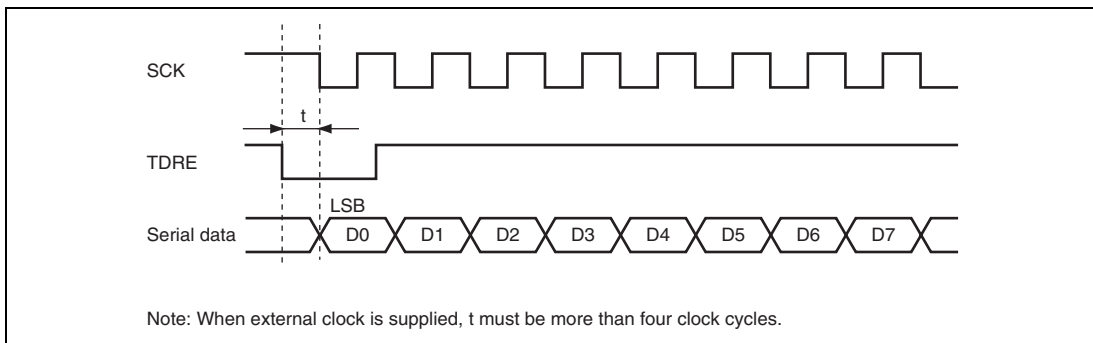

Figure 18.38 Sample Transmission using DTC in Clocked Synchronous Mode
- When the external clock source is used as a synchronization clock, update TDR by the DMAC or DTC and wait for at least five $P\phi$ clock cycles before allowing the transmit clock to be input. If the transmit clock is input within four clock cycles after TDR modification, the SCI may malfunction (see figure 18.38).